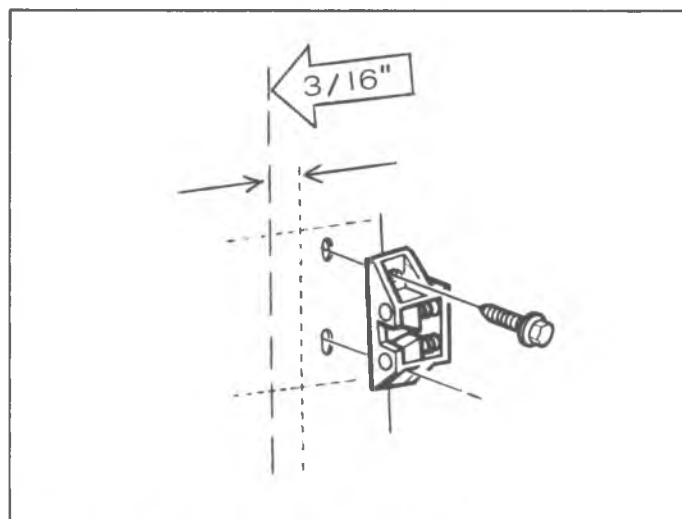

Fig. 24G—Adjusting the Rear Wedge Assembly
2. Center the wedge assembly on the door wedge, as shown in figure 24G, and scribe a line around the wedge assembly.